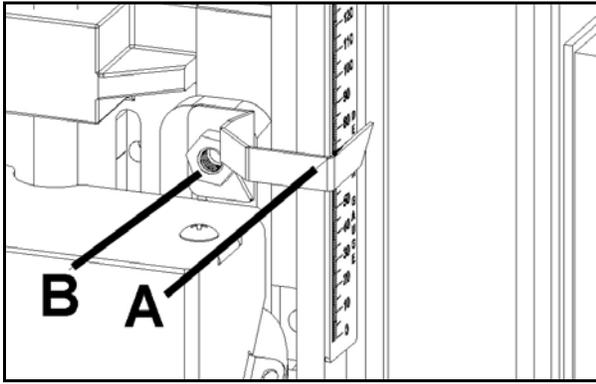

Figure 14
11. Insert tapered end of abrasive strip (B, Figure 14) into slot and fastener. It may be necessary to trim tapered end of abrasive strip so that it does not “bottom out” against inside of drum.
2. At this drum position, the depth gauge pointer (A, Figure 14) should align with the zero mark of the scale. If it does not, loosen hex nut (B, Figure 14) and adjust pointer to align with zero.
3. Re-tighten hex nut (B, Figure 14).